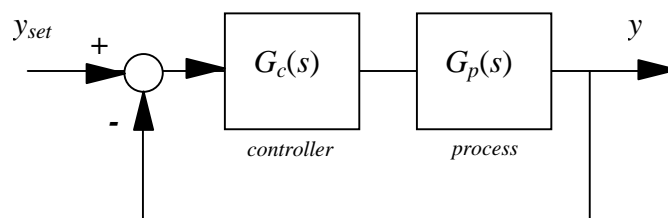

Figure 3.
2. (25 pts) The Bode plot for $G_p(s)$ is given in Figure 2. Determine the Ziegler-Nichols tuning for a PID controller, $G_c(s)$, for the feedback control scheme shown in Figure 3.
- (10 pts) Using a proportional controller, $G_c(s)=0.5$ in a feedback control scheme as shown in Figure 3, what is the resulting gain margin?
- (15 pts) Using a proportional controller in a feedback control scheme as shown in Figure 3, what should be the proportional control gain be so that the resulting phase margin is 45° ?